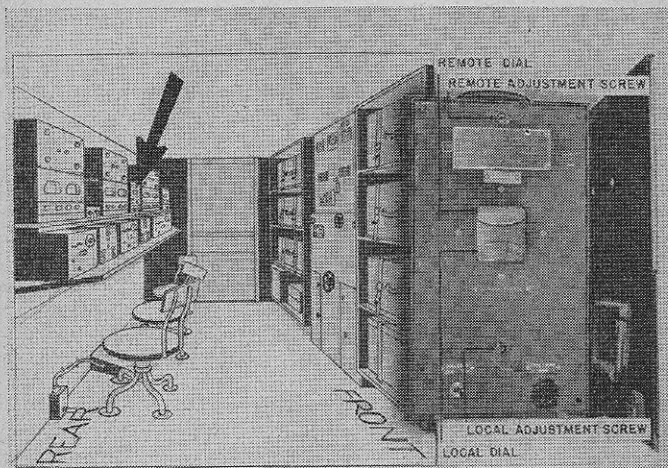

FIGURE 16.—Target designation unit.
■ 14. TARGET DESIGNATION UNITS.—*a.* Two target designation units are provided in the cab of the SCR-545-A, one for azimuth and one for elevation (angular height). (See fig. 16.) These units are mounted on the shelf in the trailer cab beside the oscilloscopes. These units contain two synchronous repeaters, the upper one of which positions itself from data received from the tracking system of the director being used, and the lower one of which positions itself from the data received from the antenna pedestal of the SCR-545-A. By watching these units the azimuth and elevation (angular height) operators can direct the radio set toward a target selected by director personnel.